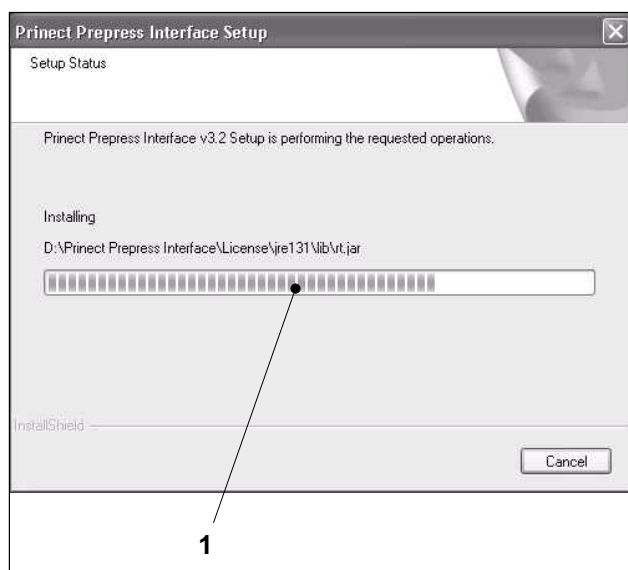

Fig. 12 Progress of the installation process
19. Wait until the progress bar has reached 100% (Fig. 12/1) and the dialog window closes.